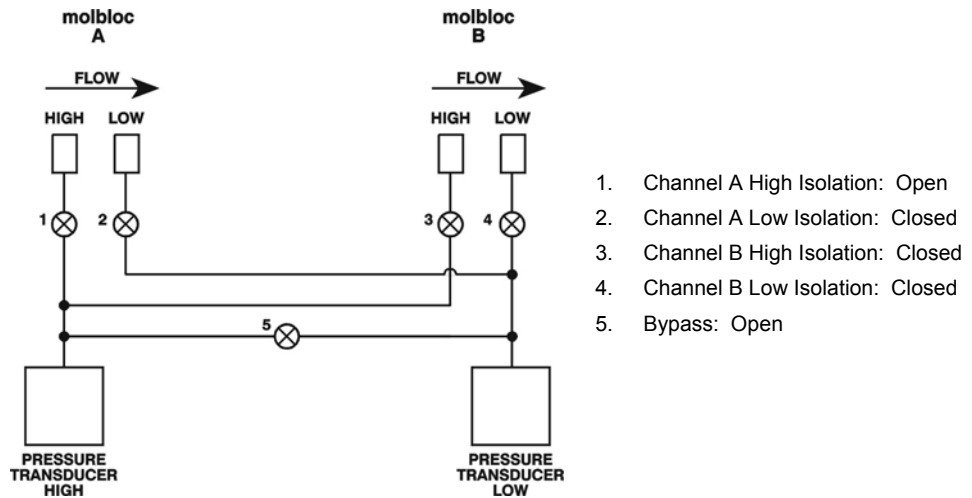

Figure 14. molbox1
To view the molbox1 RPT outputs press **[SPECIAL]**, **<4cal>**, **<1pres>**, **<1upstrm** or **2downstrm>**, **<1run>**. molbox1's internal valves operate to connect both absolute RPTs to the upstream (HI) pressure port (see Figure 14) and the display is: